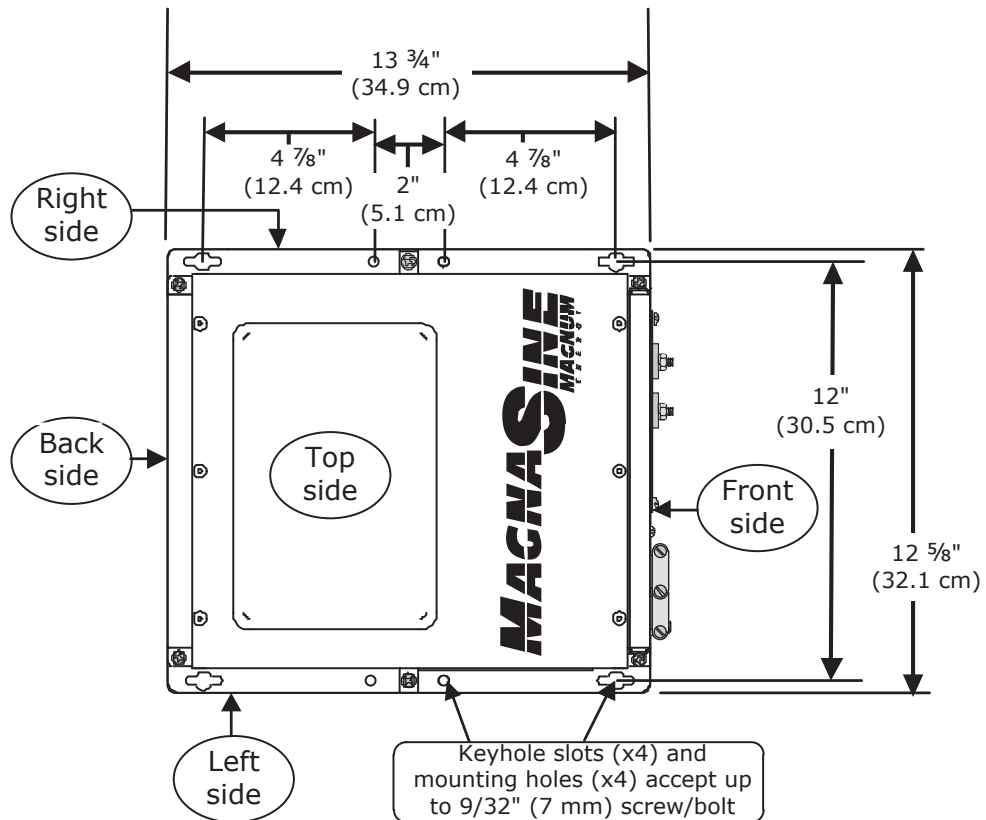

Figure 2-3, MS Series Dimensions and Side Reference
**Accessible** – Do not block access to the inverter's remote control and accessory ports, as well as the inverter's controls and status indicator. Allow enough room to access the AC and DC wiring terminals and connections, as they will need to be checked and tightened periodically. See Figure 2-3 for the MS Series inverter/charger's dimensions.
After determining the mounting position, refer to the physical dimensions as shown in Figure 2-3, or use the base of the inverter as a template to mark your mounting screw locations. After marking the mounting screw locations, mount the unit with appropriate mounting hardware.